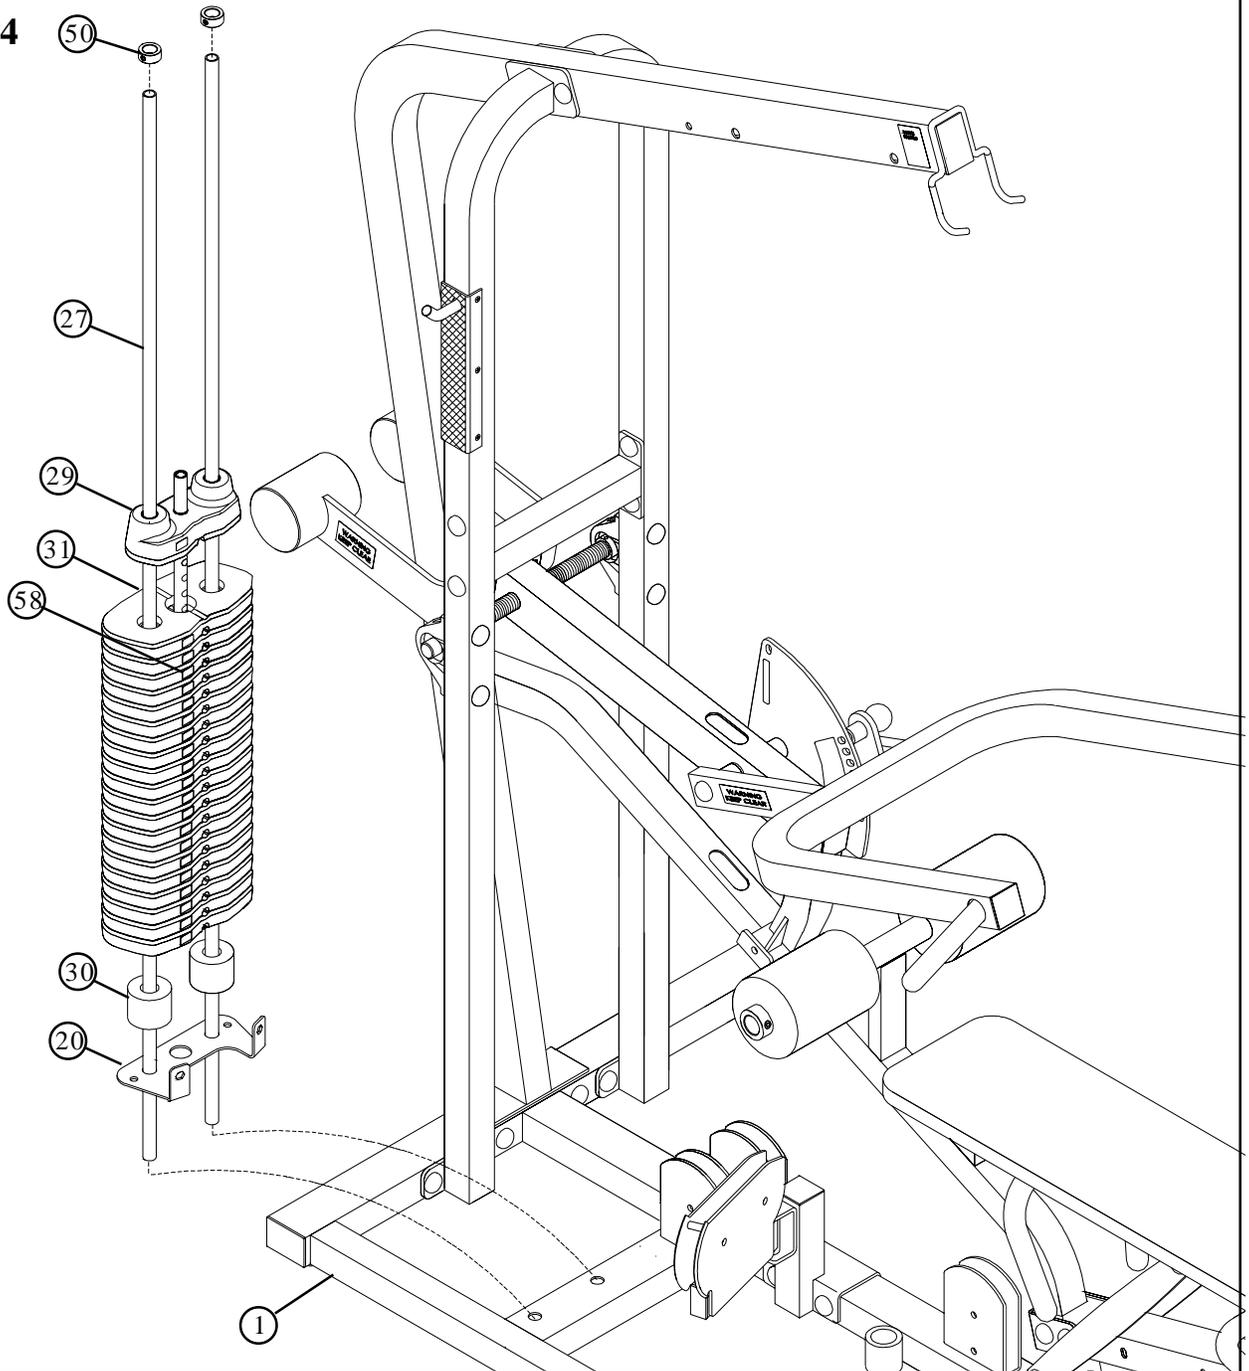

**FIGURE 21**
- **SECURELY** assemble the PRESS ARM (10) to the PIVOT ARM (9) using two RH CAPS (78), two 3/8 X 1-3/4" BOLTS W/ NYLOCK (52), two 3/8" SAE WASHERS (75) and two 3/8" RH WASHERS (76) as shown in FIGURE 21.
- **SECURELY** assemble the COUNTERBALANCE (16) to the PIVOT ARM (9) using two RH CAPS (78), two BLACK RH CAPS (77), two 3/8 X 1" BOLTS (60), four 3/8" SAE WASHERS (75), four 3/8" RH WASHERS (76) and two 3/8" LOW HEIGHT LOCK NUTS (73) as shown in FIGURE 21.